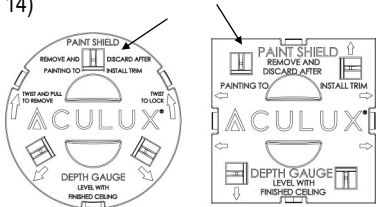
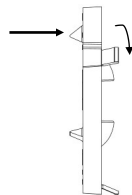

Fig. 14
Fig. 13
4. Paint shields have easy-access screw installation (Fig. 13). Push openings with fingers or screw driver until completely open. Repeat with all openings (Fig. 14)